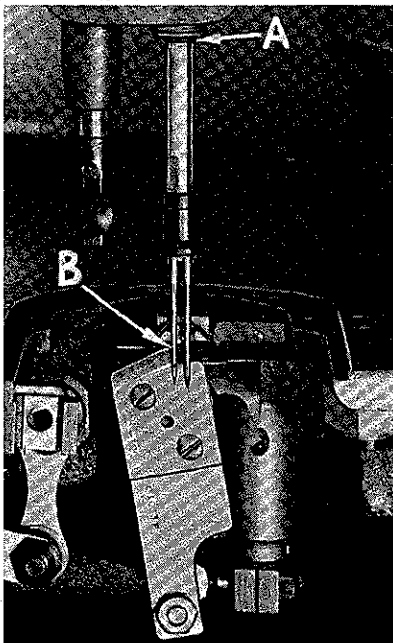
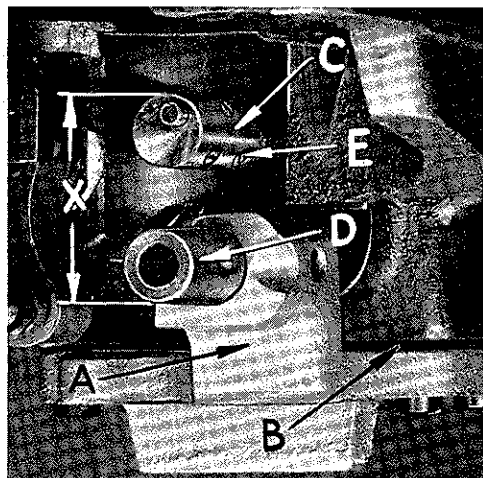

Fig. 14
Fig. 16
Turn handwheel in operating direction until the needle bar has started to rise from its lowest position and the timing line (A, Fig. 14) at bottom of 3/64 inch hole is even with the bottom of the lower needle bar bushing. At this time, the point of the sewing hook (B) should be even with the centerline of the eye needle on the 100 P and 100 NTN machines, centered between the eye needle and the hook needle on the 100 S machine and 1/16 inch past the eye needle in its direction of travel on the 100 LS machine. The above adjustment may be made by loosening the three screws (E, Fig. 16) in the hook driving barrel and rotating the barrel until the above condition is satisfied.
This is done by loosening the Allen screw located in the lower bracket. Move the sewing hook shaft bushing (D, Fig. 16) either to the left or right to locate the sewing hook properly. Re-tighten the Allen screw.
Should it become necessary to replace either the hook carrier bracket (A, Fig. 16) or the shim gasket (B) for it, it is extremely important that the proper distance between the hook barrel (C) and hook carrier bushing (D) be maintained. Use a micrometer to check this dimension as shown at "X" in Fig. 16. On Styles 100 P, 100 S, and 100 NTN, this dimension is 1.375 inch plus .005 inch and on Style 100 LS, it is 1.400 inch plus .005 inch.